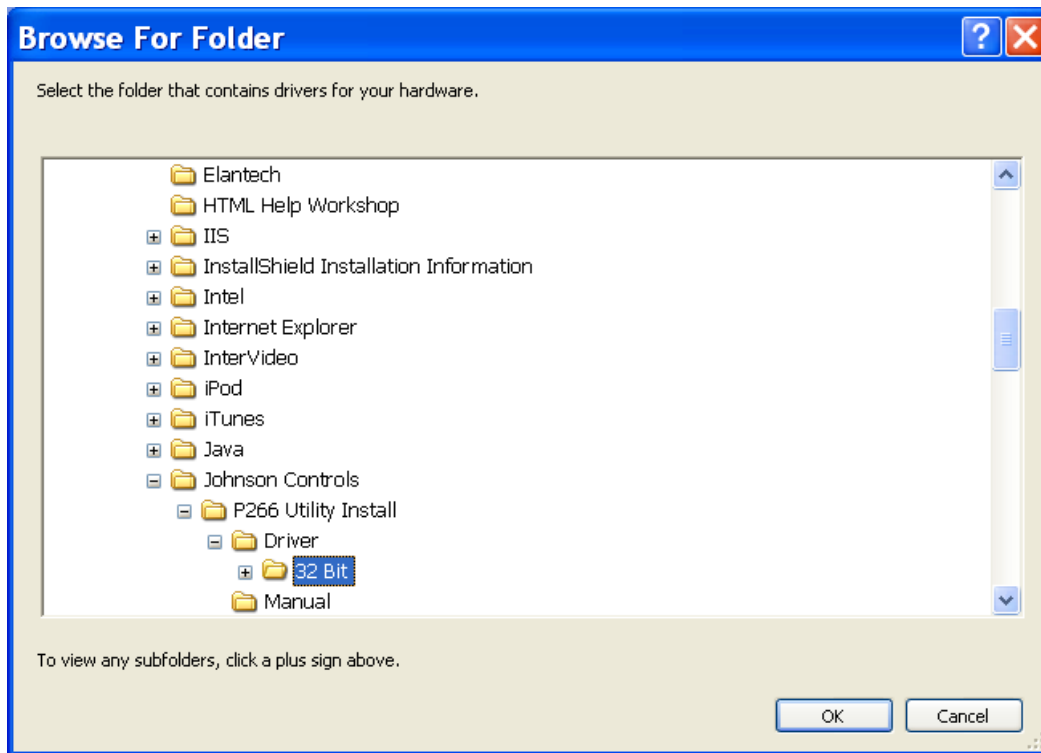

Figure 17: Browse the Folder Structure
4. When prompted, browse to the folder where the P266 Utility is installed. Within this folder are subfolders containing both a 32-bit and 64-bit device driver for the serial cable as shown in Figure 17.